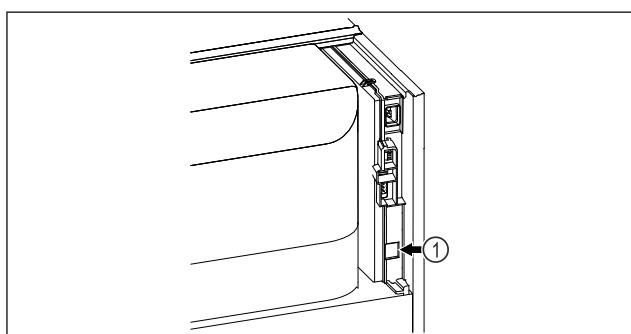

Fig. 168
- SmartModule Fig. 168 (1) is in use.